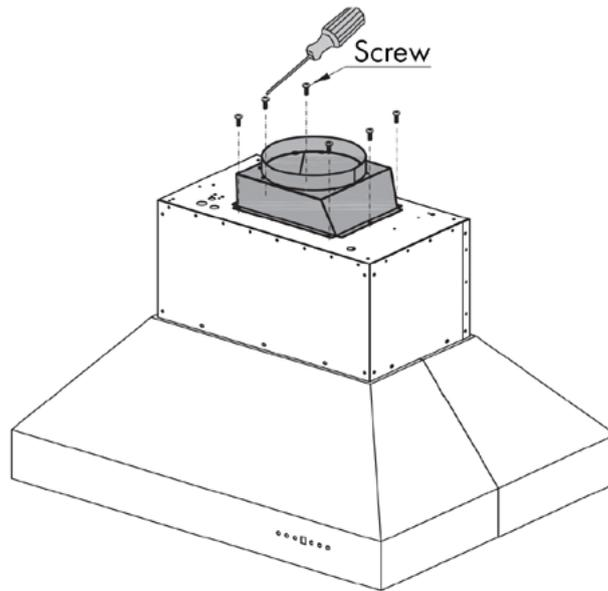

Figure 4
5. Use 4 or 6 screws (G) — the number depends on range hood model — to attach the transition piece to the top of the hood. Ensure the dampers in the transition piece open upward, not downward. NOTE: In some models, the transition piece will already be installed. *Figure 4*